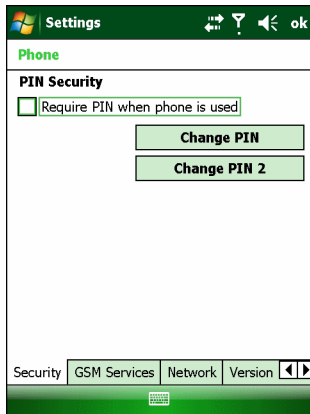

Figure 7-3 Security Tab
1. From the **Security** tab (*Figure 7-3*), select the **Require PIN when phone is used** check box under **Security**.
1. From the **Security** tab (*Figure 7-3*), tap **Change PIN**.
1. From the **Security** tab (*Figure 7-3*), deselect the **Require PIN when phone is used** check box.